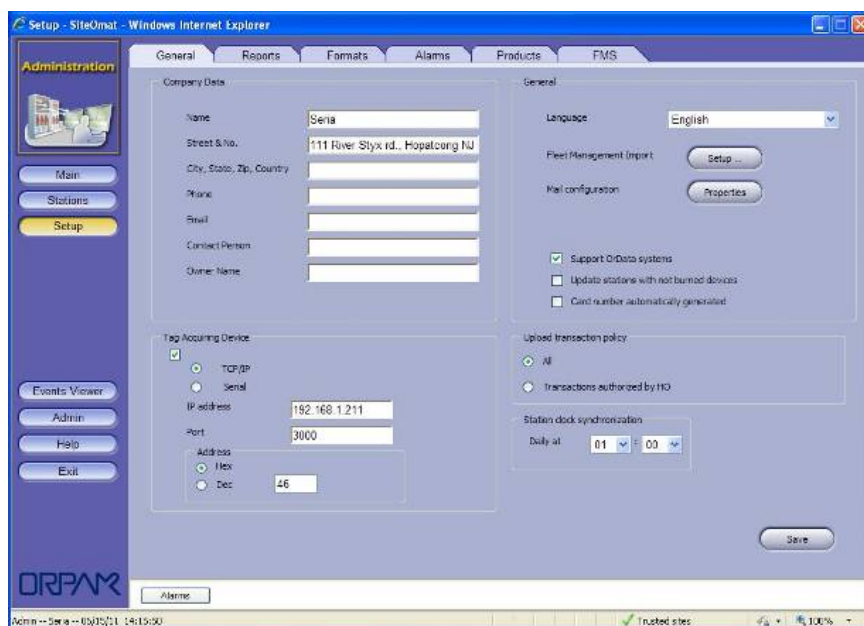

Figure 1-4. Setting the HID Pod in FHO Administration Setup – General Screen
4. Browse to FHO and select: Administration → Setup → General tab (see Figure 1-4)